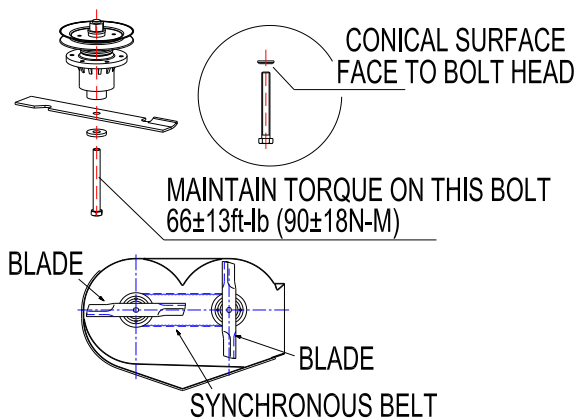

FIG 6
- Re-install the blades (if they were removed) by placing a block of wood between the front or rear baffles and the blade; then torque the blade bolts to $66\pm13\text{ft-lb}$ ($90\pm18\text{N-M}$). Be sure the spring disk washer cone is installed toward the bolt head. (See FIG 6) .